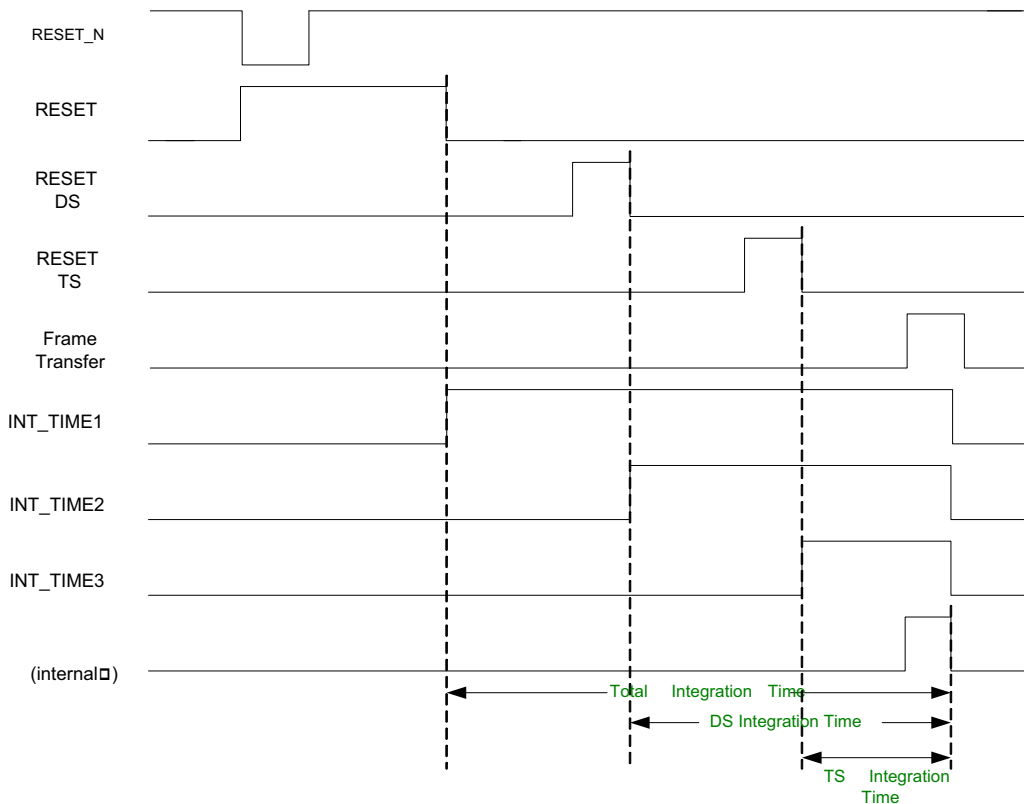

**Figure 15. Integration Timing in Master Mode**
In mastermode the integration time, the dual slope (DS) integration time, and triple slope (TS) integration time are set by the SPI settings. Figure 15 shows the integration timing and the relationship with the SPI registers. The timing concerning integration is expressed in number of lines read out. The timing is controlled by four SPI registers which need to be uploaded with the desired number of lines. This number is then compared with the line counter that keeps track of the number of lines that is read out.
The length of the integration time, the DS integration time and the TS integration time are indicated by 3 output pins: INT\_TIME\_1, INT\_TIME\_2 and INT\_TIME\_3. These outputs are high during the actual integration time. This is from the falling edge of the corresponding reset pulse to the falling edge of the internal pixel sample. Figure 16 illustrates this. The internal pixel sample rises at the moment defined by FT\_TIMER (see Figure 15) and the length of the pulse is  $4 * (12 * (GRAN < 1:0 > + 1) + 2)$ .